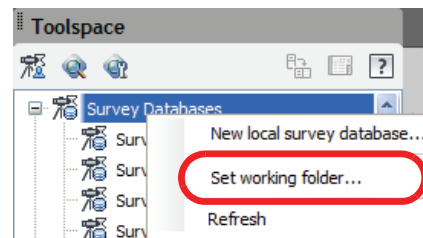

Figure 2–2
2. Right-click and select **Set working folder...** as shown in Figure 2–2.